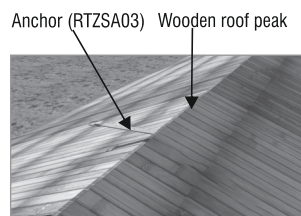

Fig.1- Wooden roof structure on which anchor is to be installed
- Place the anchor plate to match the surface it will be mounted on, either a roof peak or flat surface. Ref fig.1